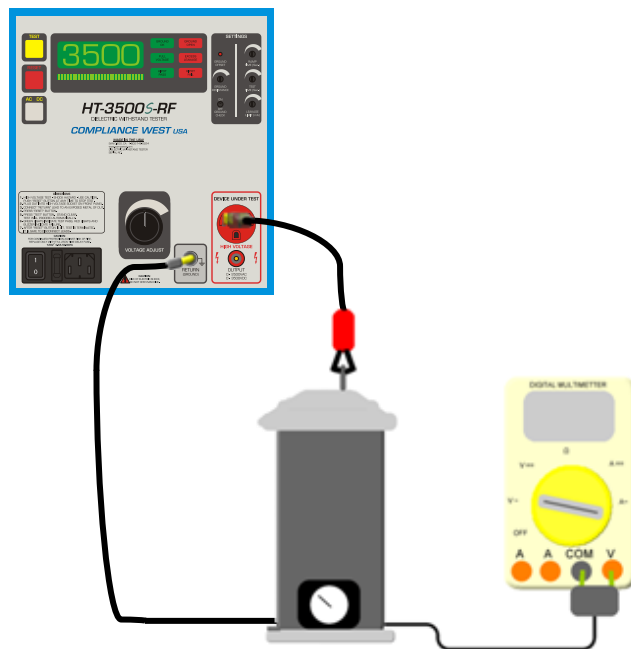

Figure 6. Voltage Measurement with 1000:1 High Voltage Probe
4. Set up a 1000:1 probe with the volt meter has is shown on Figure 6, or hook up the positive probe terminal to the High voltage test jack on units that have it.
2. Set up a 1000:1 probe with the volt meter has is shown on Figure 6, or hook up the positive probe terminal to the High voltage test jack on units that have it.